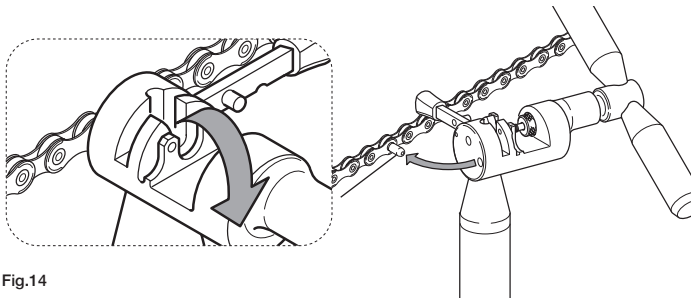

Fig.14
- Insert the protruding part of the guide into the hole provided at the base of the tool and split it by bending (Fig. 14). The terminal part of the split guide must always remain inside the bushing.